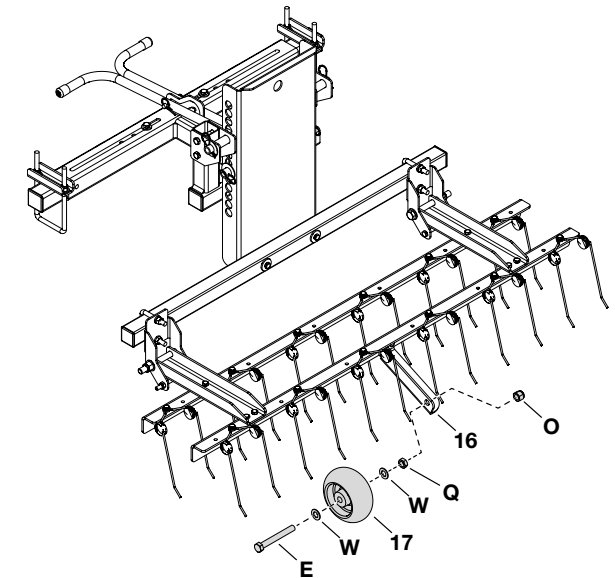

Figure 14
STEP 14: (SEE FIGURE 14)
- Attach the wheel (17) to the wheel mount bracket (16) using a hex bolt (E), two washers (W), a hex nut (Q), and a Nylock hex nut (O).